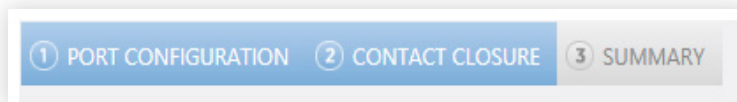

fig. 68
**Note:** The progress bar at the top of the **configuration** pane should now look like fig. 68.